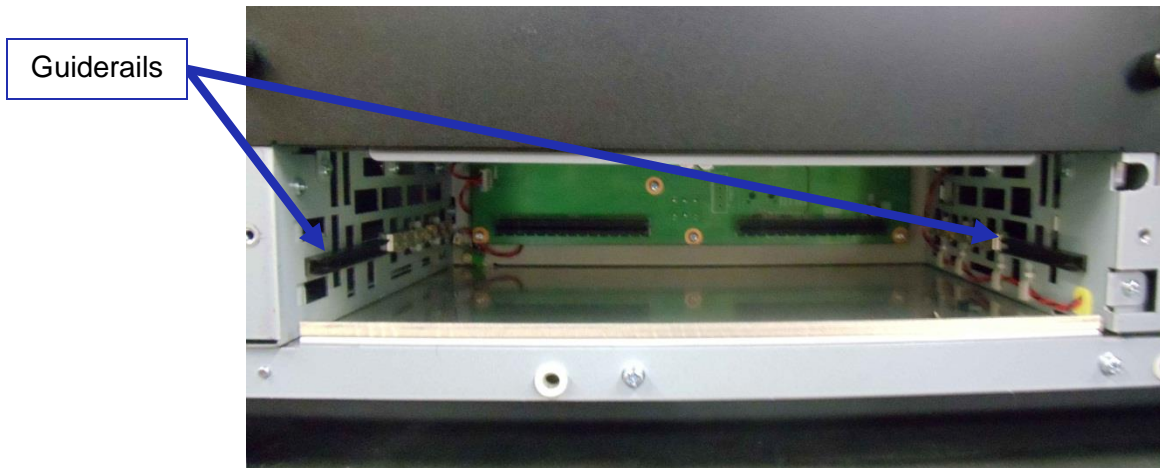

Figure 12: Empty Slot
- The media block slot should now be empty (Figure 12).
- Gently place the IMS1000 board into the projector's media block slot, aligning the board with the guides on the inside of the slot (Figure 12 and Figure 13).